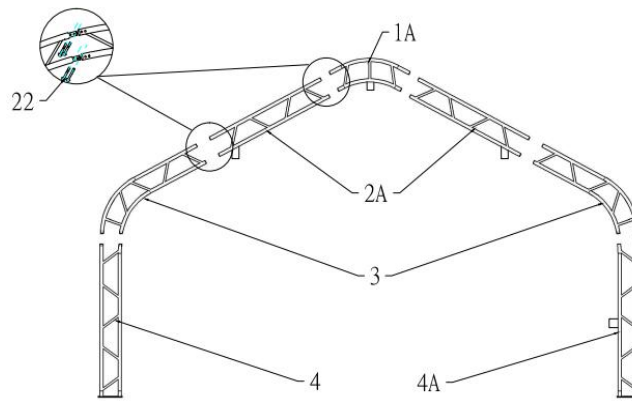
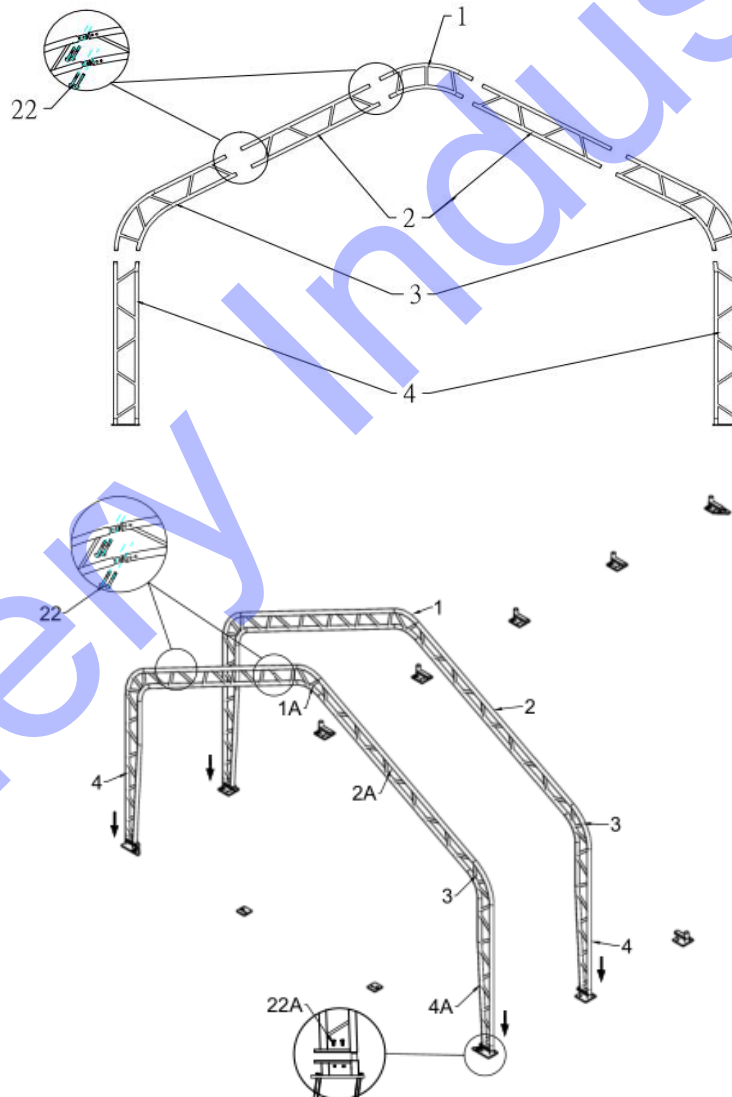
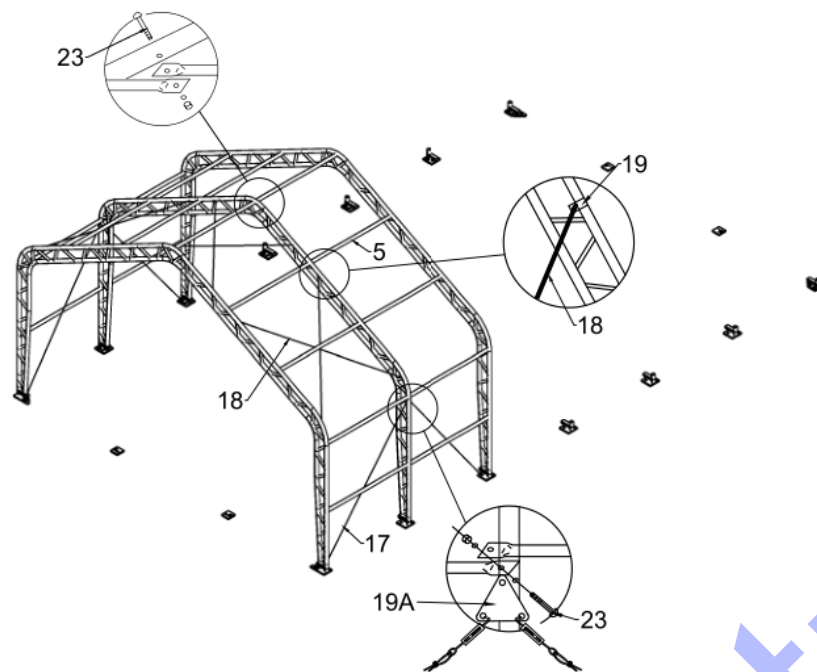

Figure 3
Figure 4
Figure 5
1. Figure 3 shows to connect the Roof bent tube for front and back door (No.1A), Sidewall bent tube for front and back door (No.2A), Shoulder bent tube (No.3), Standing leg (No.4) and Standing leg for front door (No.4A) with Carriage bolt 8x80 (No.22), then put the arch into tube of the Base flange by hoist (see Figure 4)
2. Figure 4 shows to connect the Roof bent tube (No.1), Sidewall bent tube (No.2), Shoulder bent tube (No.3), and Standing leg (No.4) with Carriage bolt 8x80 (No.22), then put the arch into tube of the Base flange by hoist, and assemble every group arch by turns (see Figure 5)
3. Connect Purlin (No. 5) to arch by using Carriage bolt 10x90mm (No. 23) by turns (see Figure 5), then connect the Steel wire (NO. 17 and NO. 18) on top and side by using Clip (No. 19) (see Figure 5).